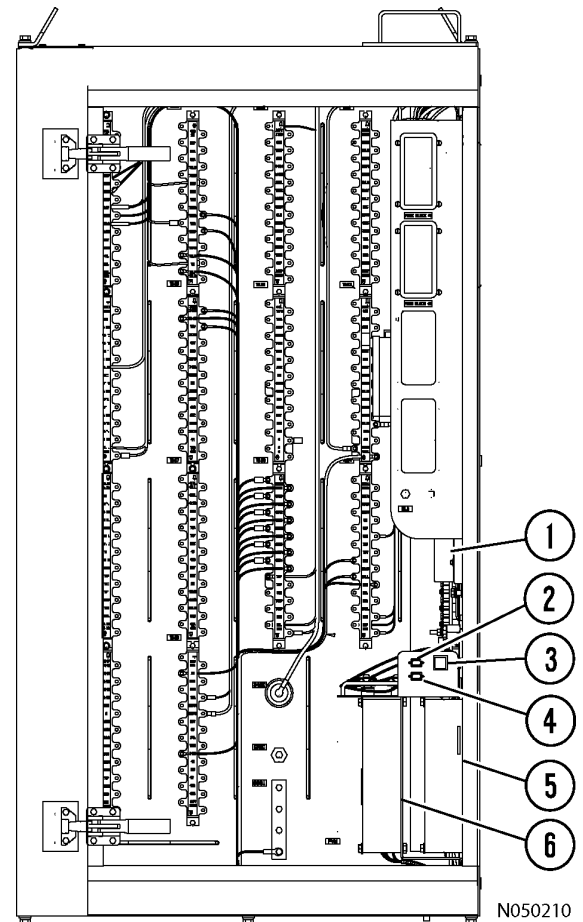
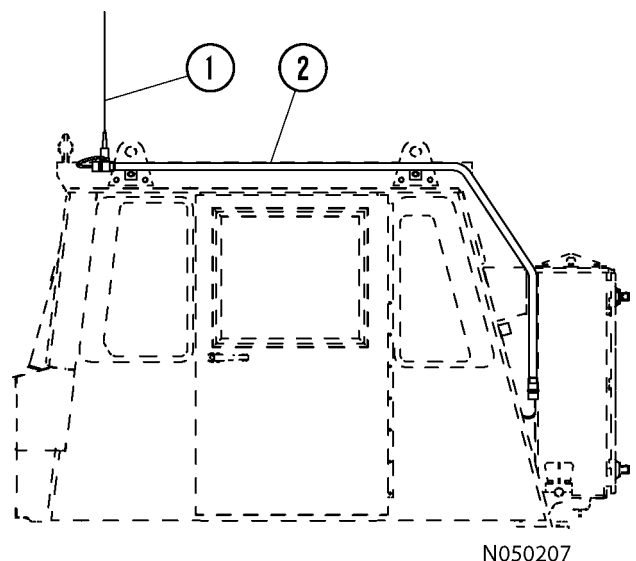

FIGURE 32-9. VHMS COMPONENT LOCATION
FIGURE 32-10. ORBCOMM ANTENNA
This system uses the VHMS controller (6, Figure 32-9) to gather data about the operation of the truck from sensors and other controllers installed on the truck. The data stored in the VHMS controller is collected by a laptop personal computer (PC) or transmitted directly by communications satellite (utilizing the Orbcomm controller). This data is then compiled at the Komatsu computer server. Based on this information, the servicing Komatsu distributor will suggest improvements and provide information aimed at reducing machine repair costs and downtime.
When the data-store button is pressed on the back side of the center console, it will store a "snapshot" of the Statex III drive system. It will also trigger the VHMS system to store a "snapshot" of the truck operating system. A light (3, Figure 32-9) will stay illuminated while the VHMS system is recording the "snapshot", which lasts for 7.5 minutes.
The Orbcomm controller (1, Figure 32-9) transmits data through the antenna (1, Figure 32-10) mounted on top of the cab. The antenna coaxial cable is routed through a protective tube structure (2) to protect it from damage. If the antenna or coaxial cable is damaged, replace the parts.
The interface module (5, Figure 32-9) receives data from the sensors installed on the truck and sends this information to the VHMS controller. There is a small green LED light on the face of the controller. With the key switch ON, the light should be blinking. If the light is continuously illuminated, there is a problem in the controller.